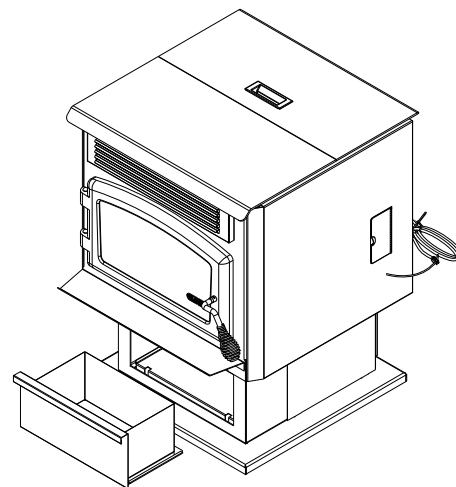

FIGURE 20
- Periodically remove and empty the ash bin (see Figure 20) by opening the front lid of the pedestal below the ash lip. Dispose of ashes properly. (See "**ASH REMOVAL**" above)